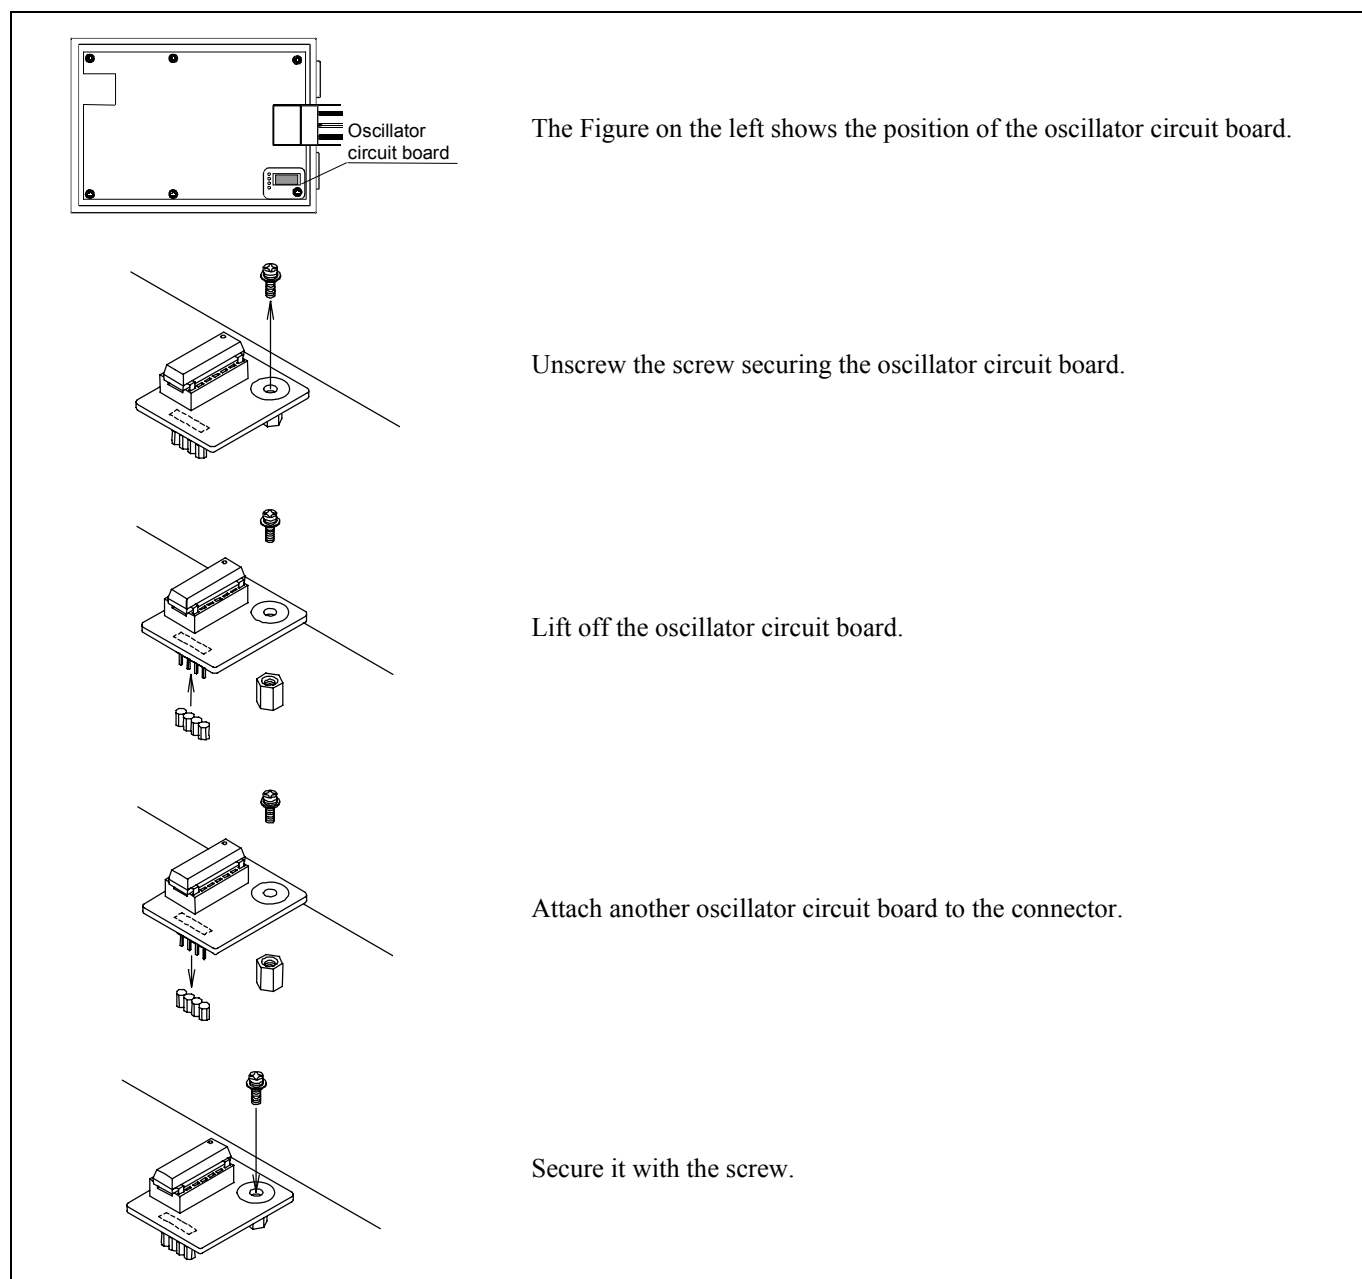

Figure 2.19 Replacing the oscillator circuit board
2. Replace the oscillator circuit board (see Figure 2.19).